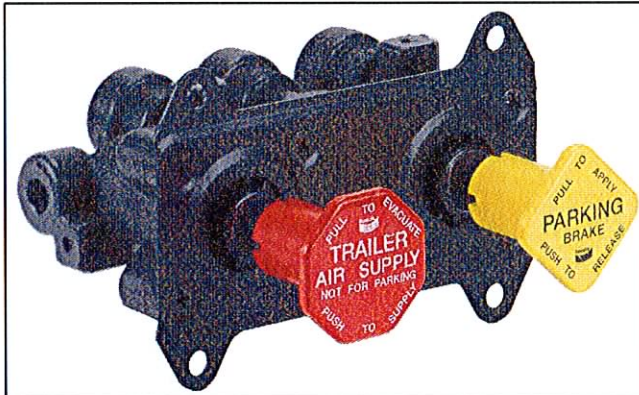

Figure 1. Bendix MV-3 Dash Control Valve
2. Locate Bendix MV-3 dash control valve. Valve is shown in Figure 1. Remove dash panel access cover(s) to expose valve body cover plate. Remove valve mounting screws.